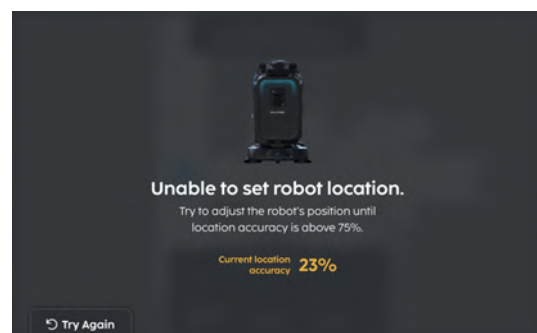

FIGURE 6-5
3. If localisation fails, check that you are at the correct spot and select 'Try Again' (**Fig. 6-5**).